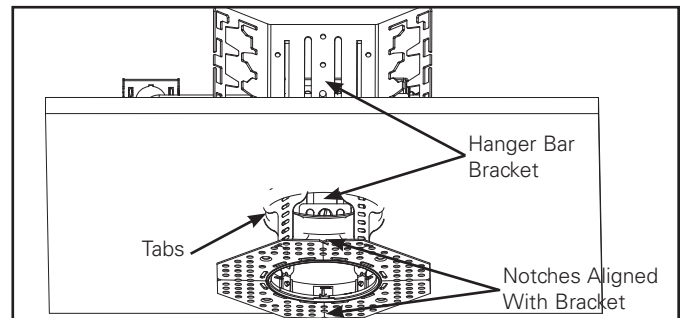

Figure 2.
7. A set of opposing notches should be perpendicular to the walls of the room or joists in the ceiling. If visible from below the ceiling, locate the adjustable hanger bar brackets and line notches up with them (not applicable for retrofit applications, see figure 2).